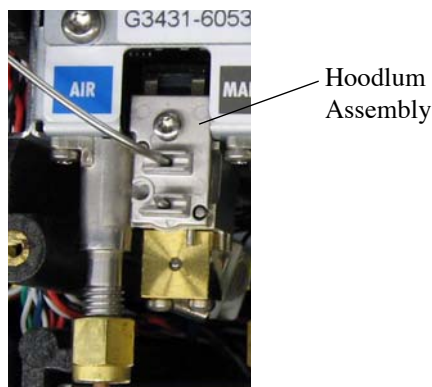

Figure 3.24. Aux EPC Module Hoodlum Assembly in the Air Position
1. Install the hoodlum assembly, provided with the OIM, in the Air position (see Figure 3.24).